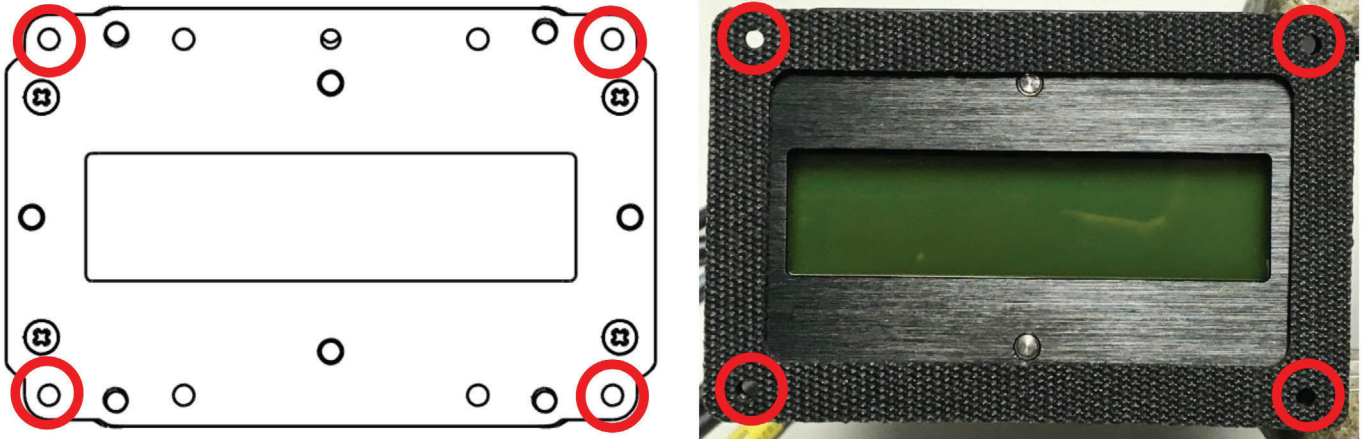

Figure 4 – Mounting Gasket Alignment
- 4. Place the external mounting gasket (PN 1050-3473) onto faceplate, aligning the holes seen in Figure 4.